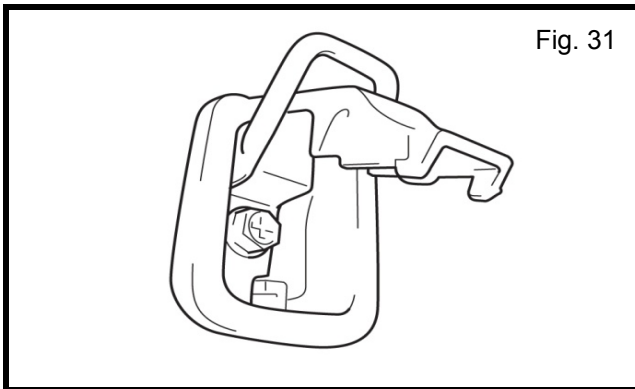

Fig. 31
- a) Using a 10mm socket loosen the bolt in the cargo hook. Bolt is integral to hook and should not be separated from it as shown in Fig. 31.